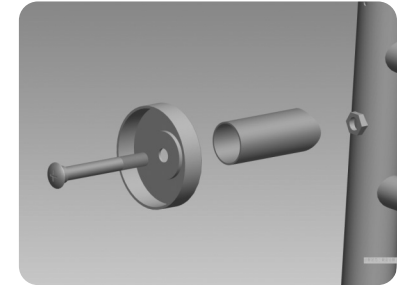

Figure 1
- Place the Towel Rail face down on a flat surface, and loosely assemble each fixing point into the reverse of the towel rail using the spacer bar, fixing cover-cap and bolt, aligning with the hexagonal thread as shown in Figure 1.